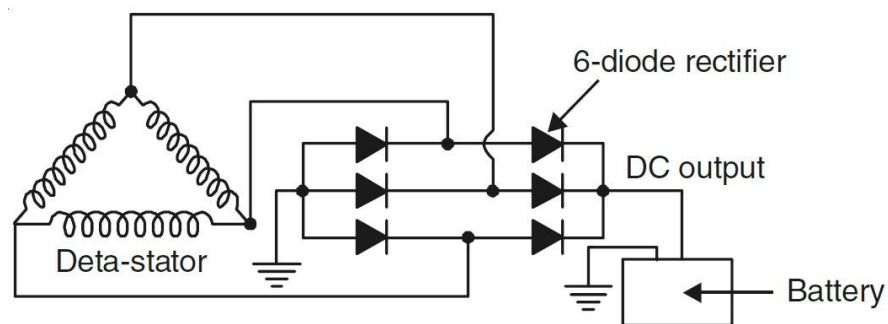

Figure 3 Rectifier Circuit
The alternate current (AC) is produced by alternator whereas most of the equipment in an automobile require direct current (DC). This is done by providing the rectifiers that convert the alternate current (AC) in direct current (DC). Figure 3 shows the rectifier. This is a six-diode rectifier. The diode allows current flow only in one direction. The loops in the stator are divided into three groups and these form a delta-connected stator or Y-connector stator. The six diodes are connected to three legs as shown.